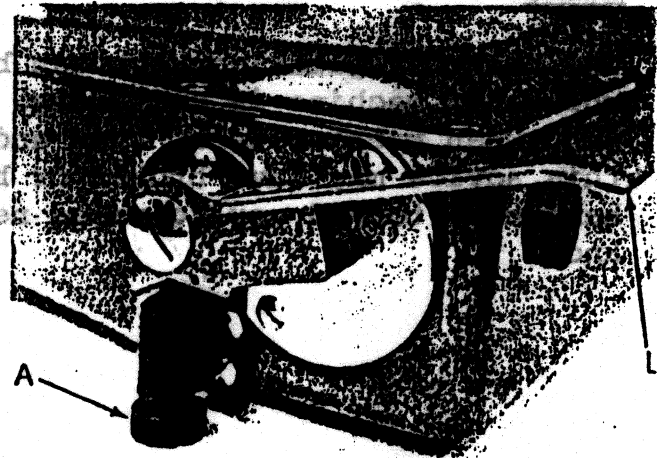

Fig. 11
1. Knurled head screw (A), Fig. 11 controls the stitch length at which the machine operates. To increase stitch length lightly depress lever (L) and turn screw (A) clockwise. Release lever and allow it to come to a stop against the tip of the adjustment screw. Try for results and if further adjustments in stitch length should be desired, turn screw (A) clockwise to further increase stitch length or counterclockwise to shorten stitch length.
2. For reverse sewing, lower the lever (L) as far as it will go.